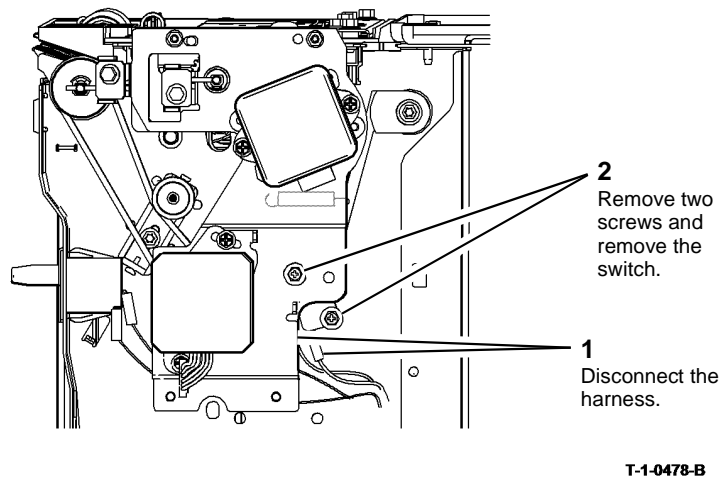

Figure 1 Upper limit switch removal
2. Remove the tray 5 upper limit switch, Figure 1.